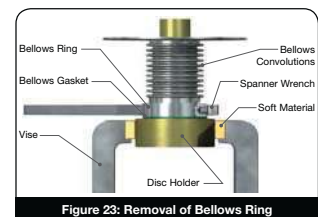

Figure 23: Removal of Bellows Ring
12. For D through U orifice bellows valves, the bellows is attached to the disc holder by right-hand threads. Use a special spanner wrench on the bellows ring to remove it by turning counterclockwise (Figure 23).